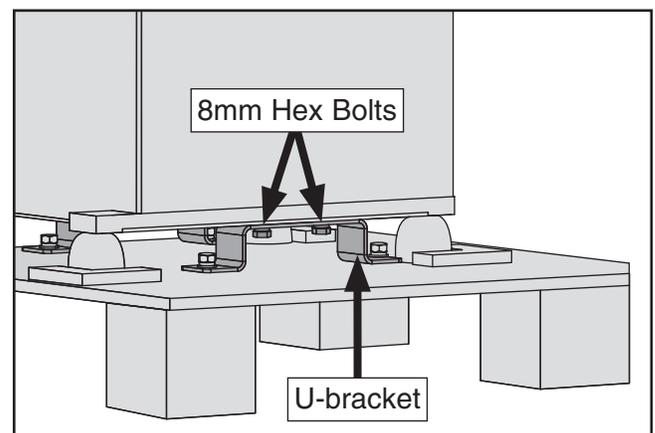

Figure 4. Location of U-bracket hex bolts.
2. Loosen 8mm hex bolts attaching machine to U-bracket and remove (see **Figure 4**).